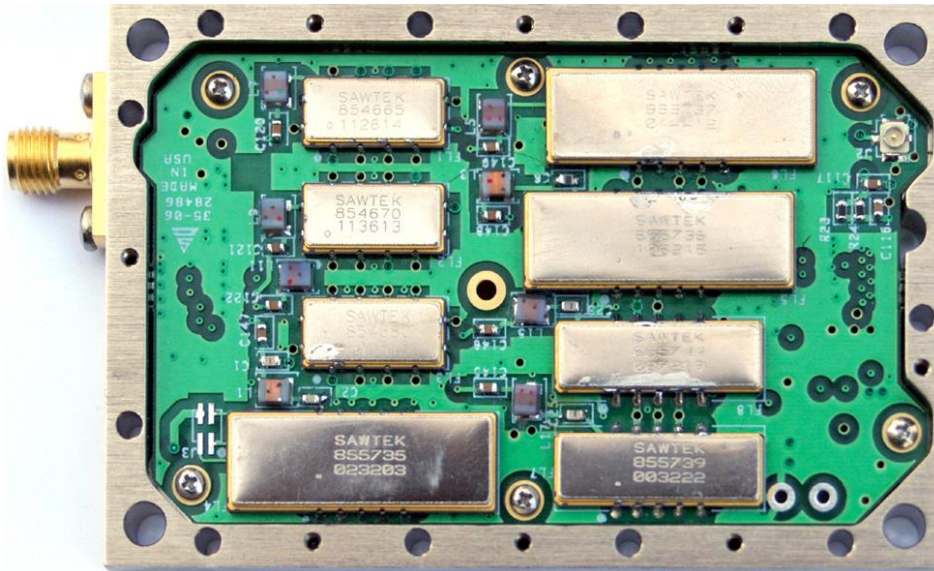

Figure 82: 70 MHz IF Module in 2" x 3" Chassis
The receiver's integrated IF filter module, shown in Figure 82, includes eight (8) SAW filters, ranging in bandwidth from 250 kHz to 40 MHz in approximately one-octave steps. The standard eight filters are 250 kHz, 500 kHz, 1 MHz, 2 MHz, 4.5 MHz, 10 MHz, 20 MHz, and 40 MHz. These filters serve as anti-aliasing filters ahead of the A/D converter in the demodulator itself. In addition, they can provide an added measure of adjacent channel interference rejection.